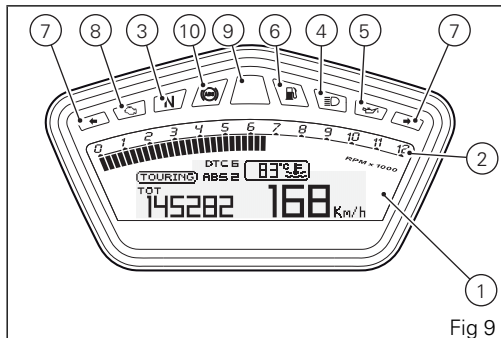

Fig 9
10) ABS LIGHT (AMBER YELLOW) (Fig 9).